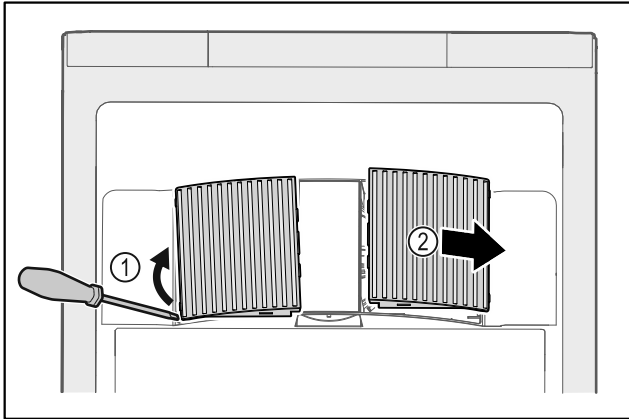

Fig. 228
- ▶ Carefully lever out fan covers from the side Fig. 228 (1) and remove towards the front Fig. 228 (2).